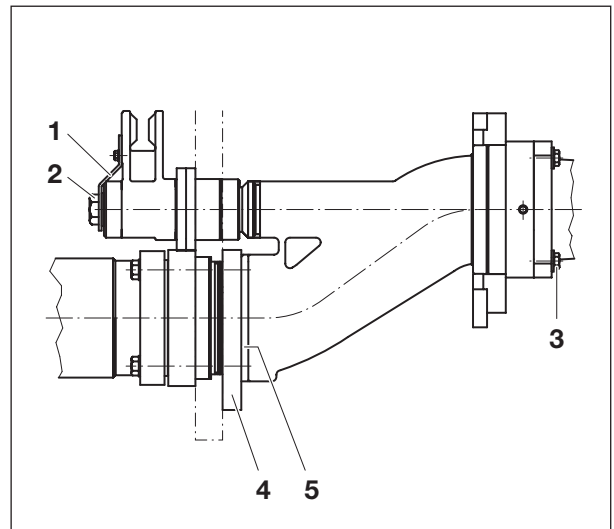

Fig. 9.24 Changing the wear plate and wear ring 1
2. Pull the right hand motor (4) out approx. 10 mm and put the agitator shaft (3) to one side.
3. Remove the retaining ring (5), pull the left and right hand motors (4) out and put them to one side. Take care not to kink the hydraulic hoses.
4. Remove the screws (6) and take out the spacer plates with the seals (7).
5. Exchange the seals (7) and refit them. The gap between the seals must be completely filled with grease.
6. Reassemble the motors (4) and shafts (3) together with the agitator blades in the reverse sequence to removal (see Fig. 9.24).